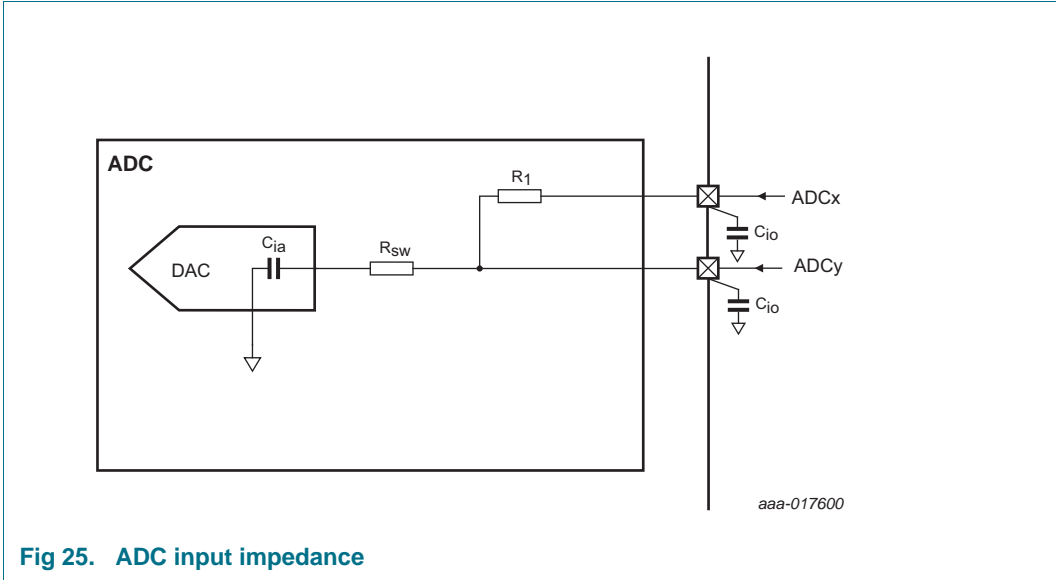

Fig 25. ADC input impedance
- [10] Input impedance Z_i is inversely proportional to the sampling frequency and the total input capacity including C_{ia} and C_{io} : $Z_i \propto 1 / (f_s \times C_i)$. See Table 15 for C_{io} . See Figure 25.
- (1) Example of an actual transfer curve.
- (2) The ideal transfer curve.
- (3) Differential linearity error (E_D).
- (4) Integral non-linearity ($E_{L(adj)}$).
- (5) Center of a step of the actual transfer curve.
Figure 25 shows the ADC input impedance. In this figure: